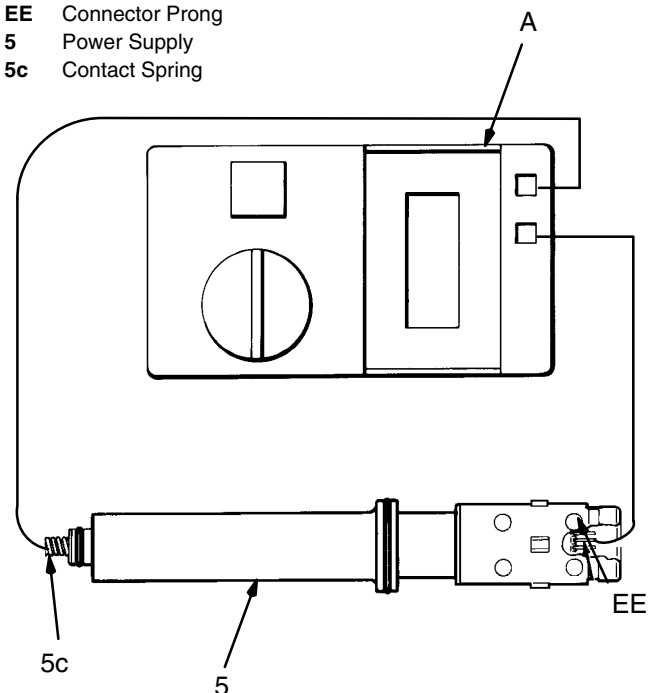

Fig 8
Measure the resistance from the center prong (EE) in the power supply to the contact spring (5c) on the other end of the power supply. See Fig 8.